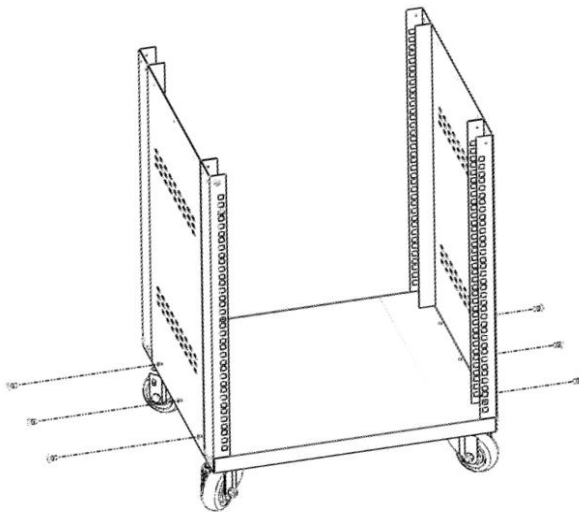

Figure 3
3. Align the Side Panel with Bottom Panel, Secure with 3pcs M5 Cross Head Screws by electrical screwdriver. then adopts same step to fix another Side Panel. See Figure 3.